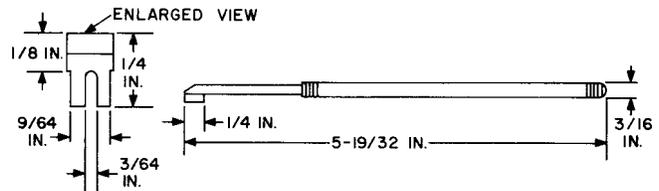

Fig. 17—300 Adjuster Tool
2.17 **300:** The 300 tool (Fig. 17) is a general purpose spring adjuster used to adjust relay springs.